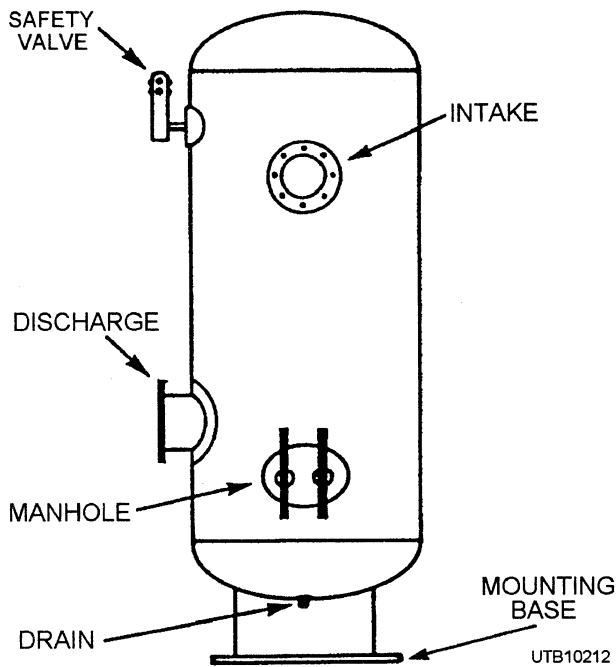

Figure 6-47.—Air receiver.
**AIR RECEIVERS.**—The receiver is nothing more than a tank designed to hold the air that is compressed to meet supply peak demands that are in excess of the compressor capacity. Additionally, receivers function as pulsation dampers on reciprocating compressor installations. Figure 6-47 shows an air receiver.